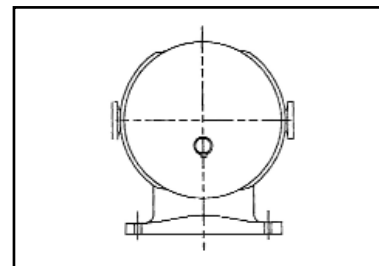

Fig. 3
- Horizontal pipe orientation, low drive shaft position - Fig. 3